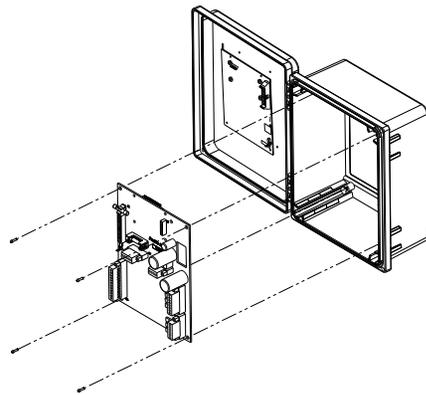

Figure 7
2. Remove the 4 screws that hold the terminal card in place in the product enclosure. Do not lose these screws as you will need them later. See Figure 7.
5. Place the terminal card back into the product enclosure and fasten it using the 4 screws removed previously. Tighten to between 12 and 26 in\*lbs taking care to not leave screws loose enough that the terminal card rattles around and not too tight that the enclosure holes begin to strip out. See Figure 7.